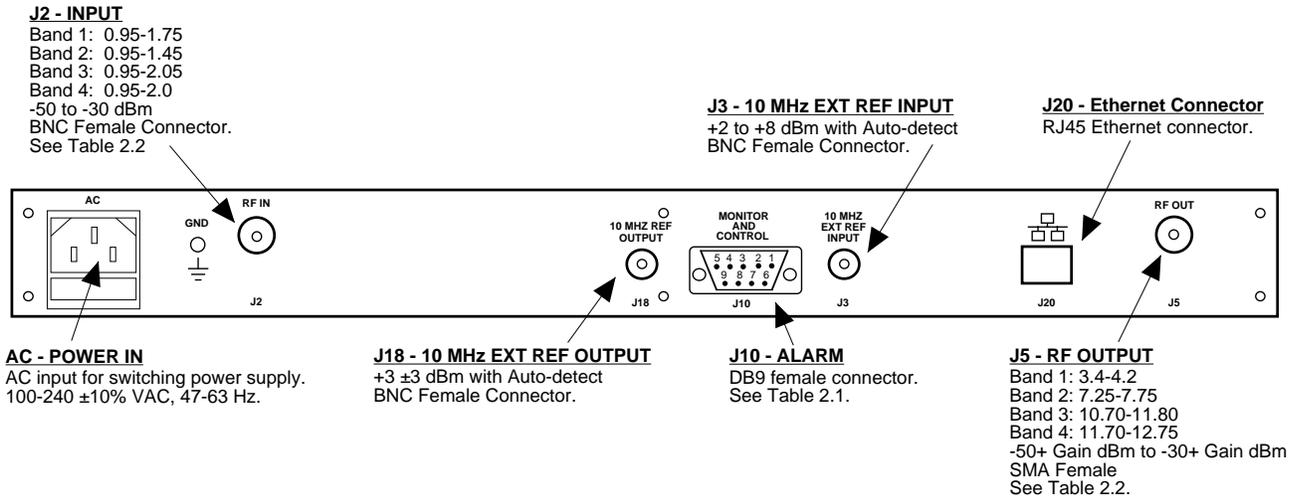

FIGURE 2.1 3115-41-128# Rear Panel I/O's
Figure 2.1 shows the input and output connectors on the rear panel.
1. Connect a -50 dBm to -30 dBm signal to RF IN, J2 (Figure 2.1).